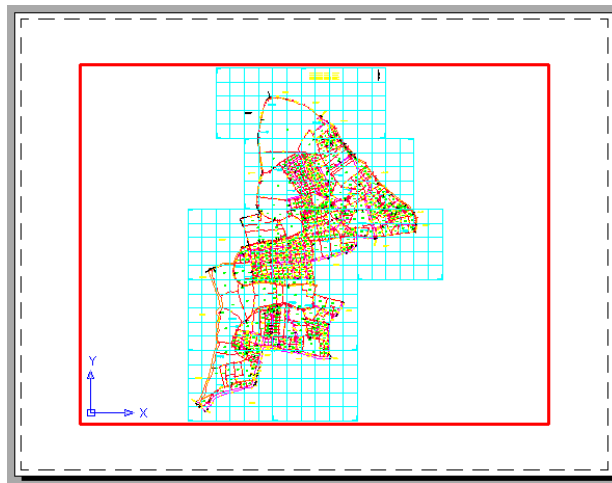

Figure 2: Model Space on Layout View
- Double click anywhere within the viewport boundary. Notice that the usual UCS icon appears at lower-left corner of the viewport and the Layout UCS icon disappears highlighting the outline of the viewport (see figure 2).